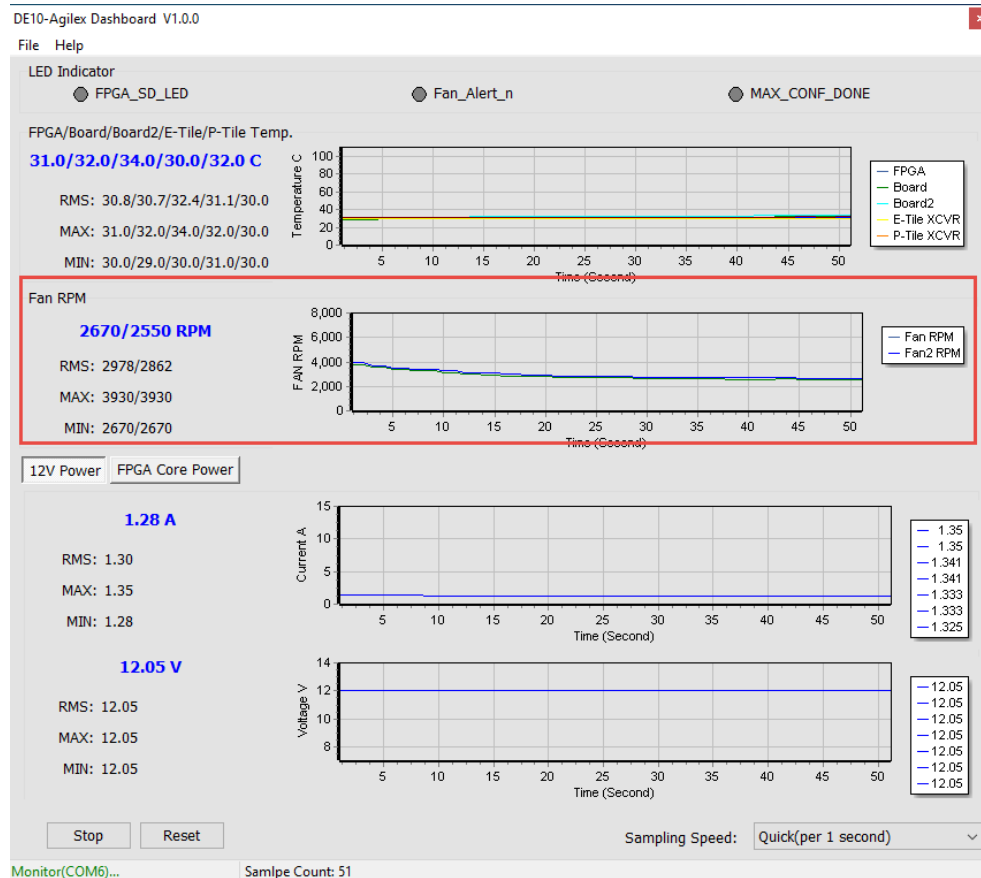

Figure 10-11 FAN RPM section
- **Fan RPM:** It displays the real-time speed of the **two** fans (Fan and Fan2 in the GUI) on the DE10-Agilex board, as shown in **Figure 10-11**.